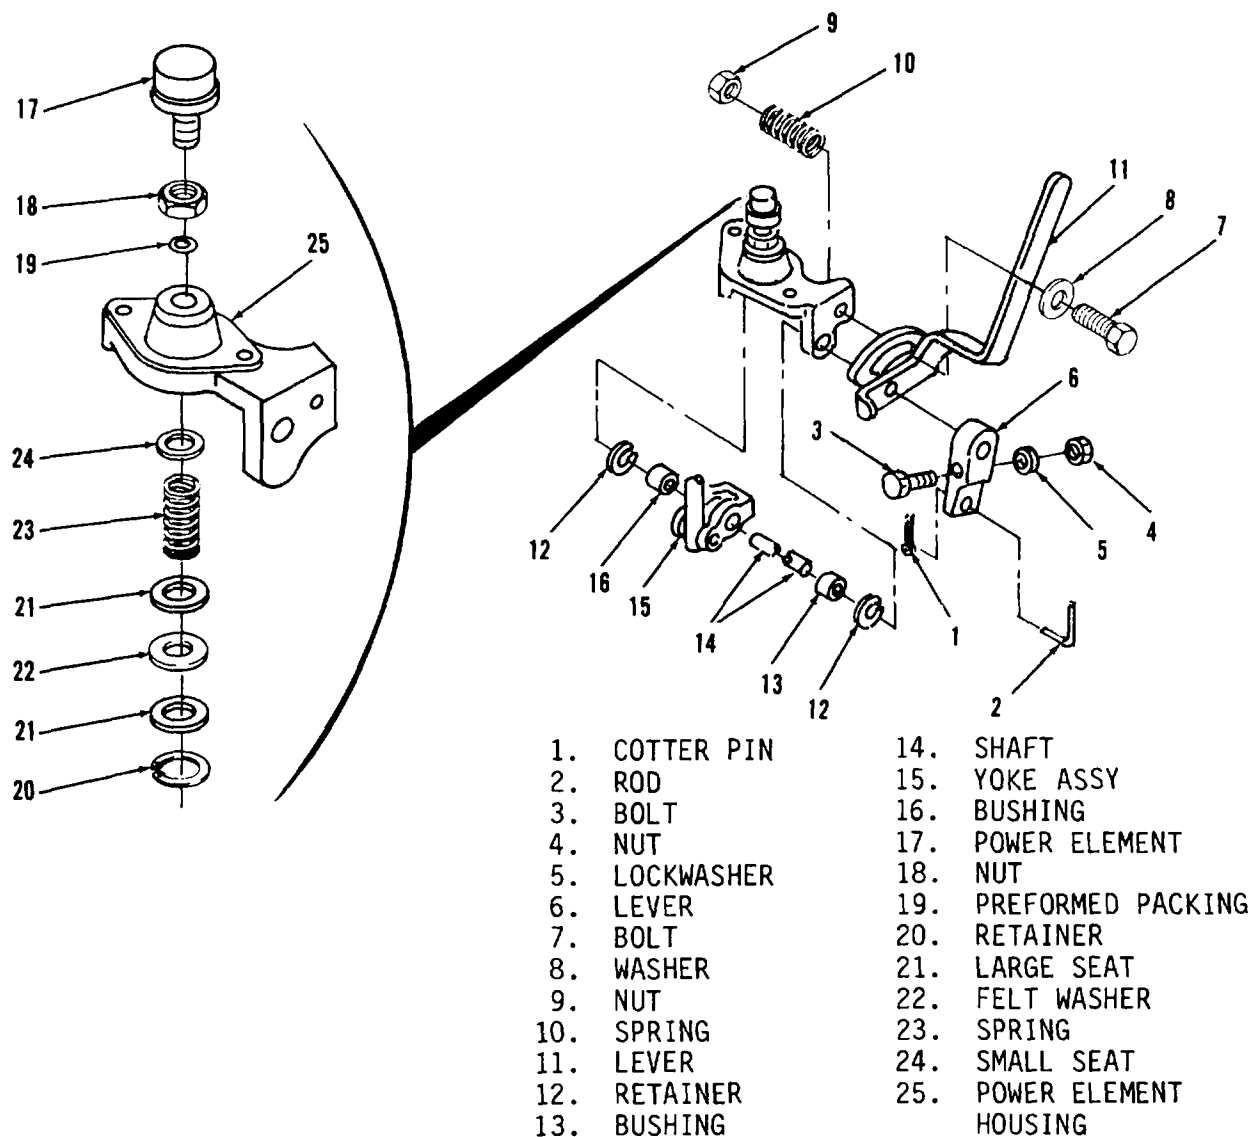

Figure 8-1. Shutter Thermostat Assembly, Exploded View
b. Disassembly. Refer to figure 8-1 and disassemble as follows:
(1) Remove cotter pin (1), rod (2), nut (4), lockwasher (5), and bolt (3) and remove lever (6).
(2) Remove retainer (12) and loosen setscrews holding yoke assembly (15) to shaft and slide shaft (14) out of yoke assembly (15). Remove yoke assembly. Remove and replace bushings (13 and 16) as required.
(3) Remove nut (9), friction spring (10), washer (8), and bolt (7) and remove manual control lever (11).
(4) Remove power element (17), preformed packing (19), and nut (18).
(5) Press in large seat (21) and remove retaining ring (23). Remove large seat slowly.
(6) Remove felt washer (22), large seat (21), spring (23), and small seat (24) from housing (25).